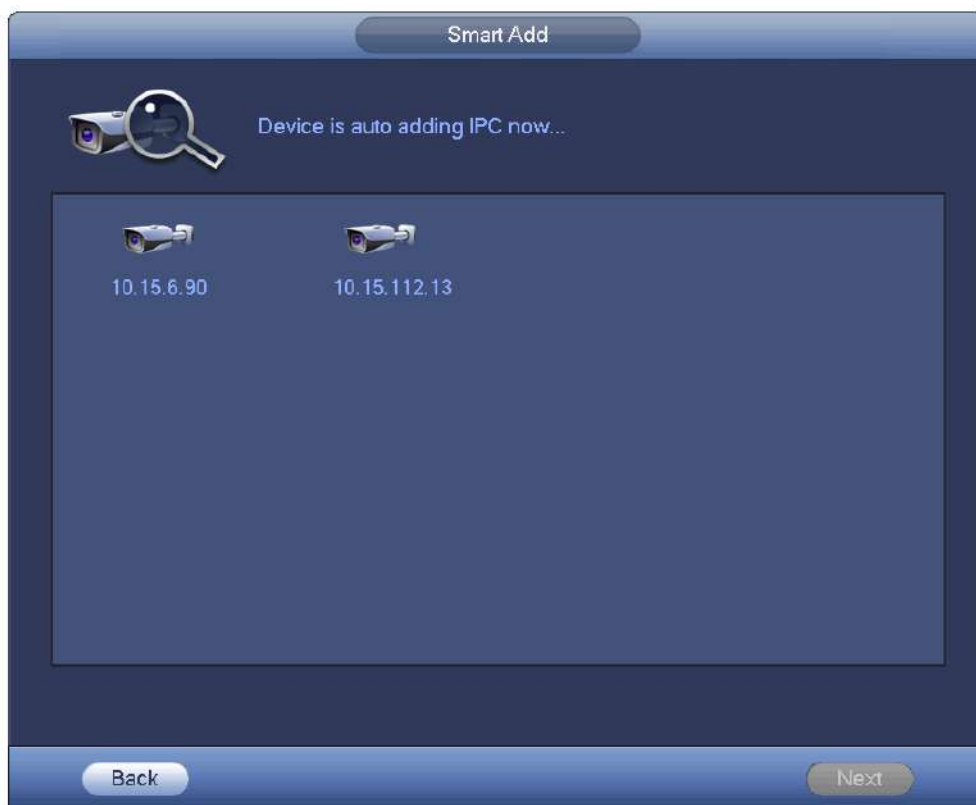

Figure 4-22
- 3) After complete DHCP function, device is automatically adding network camera to the corresponding channels. See Figure 4-22.